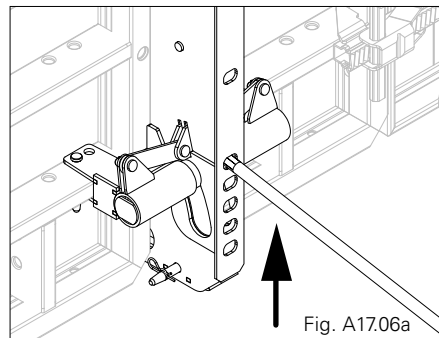

Fig. A17.06a
3. Tension slightly and bring the shaft element with crowbar into the striking position. Push crowbar upwards. (Fig. A17.06a, A17.06b) The striking dimensions are reduced by 2.5 cm on each side of the shaft. (Fig. A17.05b)